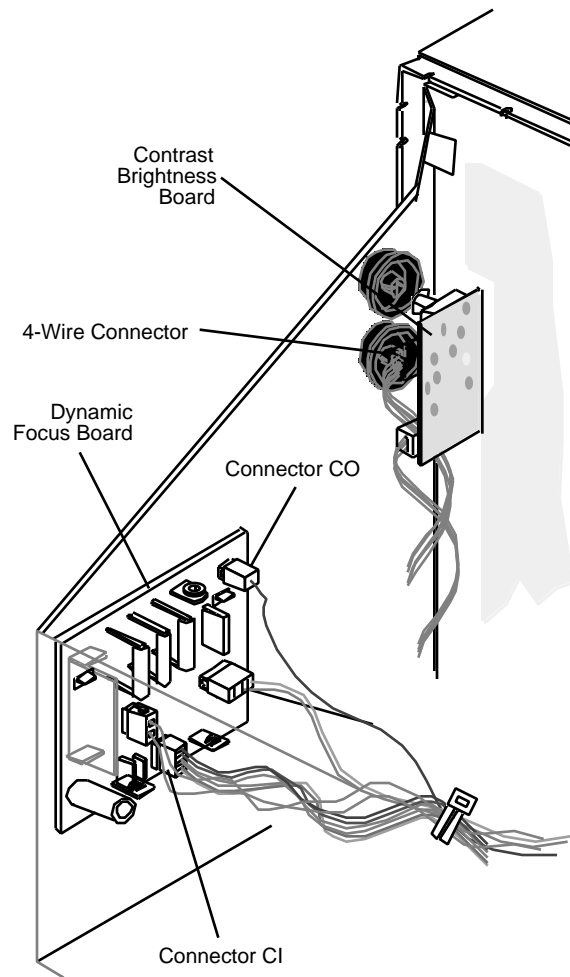

FIGURE 28
6. Disconnect the following connectors from the dynamic focus board (Figure 28) :
7. Disconnect the 3-pin, 2-wire connector from the contrast brightness board (Figure 28) .